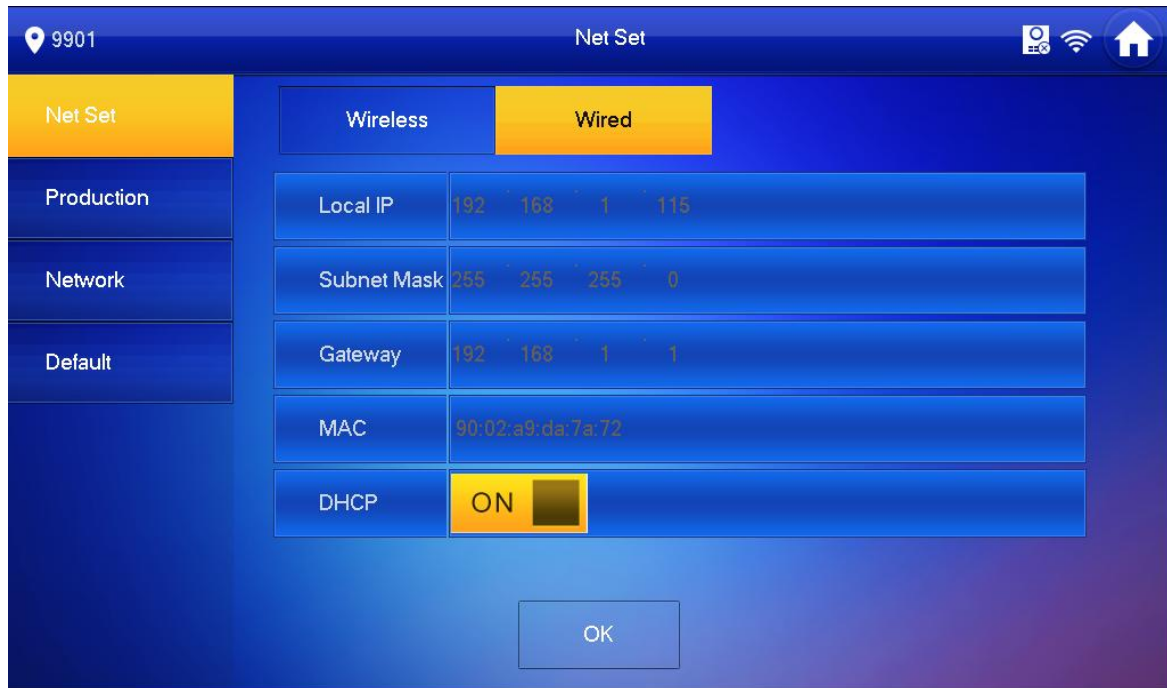

Figure 4-5
1. Select Wired. See Figure 4-5.